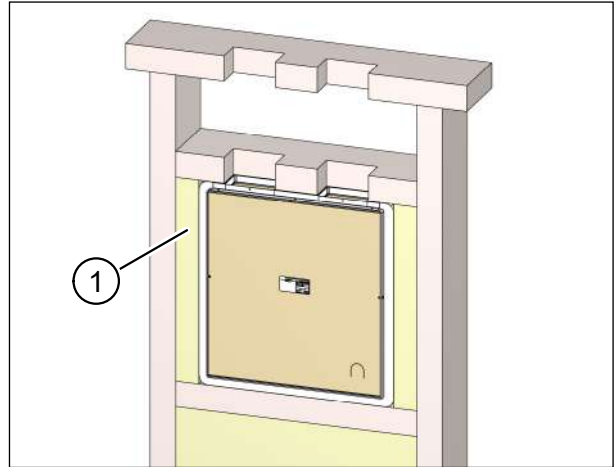

Fig. 52: Filling gaps around the wall box with insulating material
- Fill all gaps between the wall box and frame construction fully with insulating material (item 1 in Fig. 52) or using another suitable filling material. Be careful not to block the extract air and supply air openings at the top of the wall box.